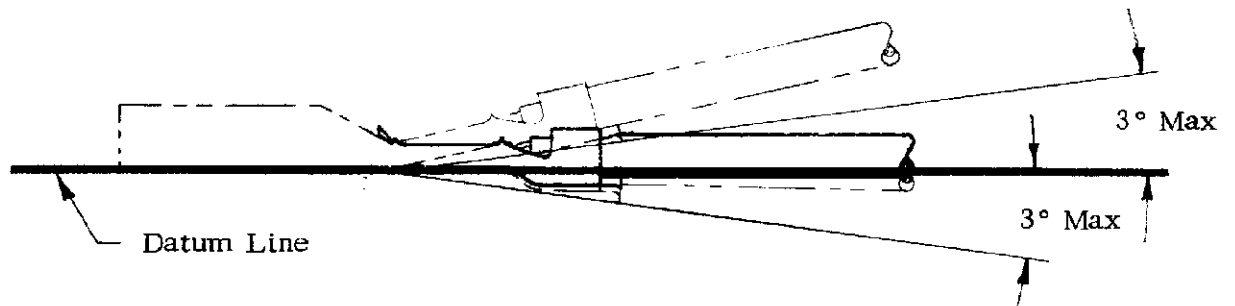

Figure 2
- (1) The contact, including the cutoff tab and burr shall not be bent above or below the datum line more than the amount shown in Figure 2. Check using gage 92-103186.